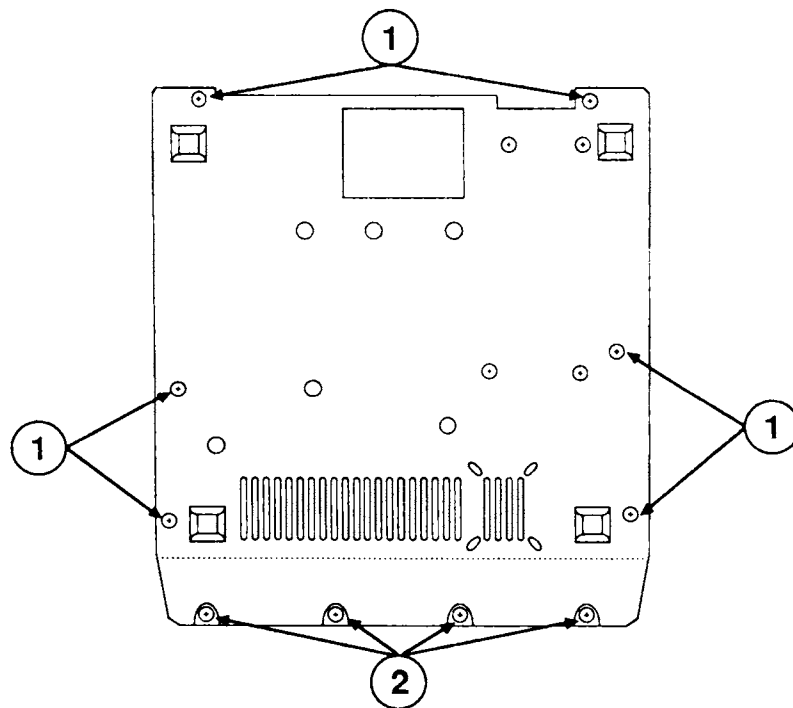

FIGURE 1
IPL.3	Finished Goods Assembly (Figure 1)
5. Remove the six flat-head screws (Figure 1, #1) from the three outside edges of the flat portion of the base pan.
6. Remove the four round-head screws and lock washers (Figure 1, #2) from the angled portion of the base pan.